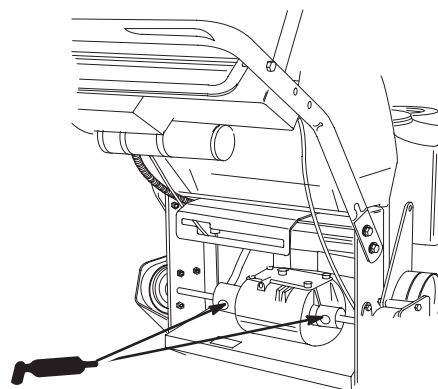

Figure 34
- Grease the transmission couplers (Fig. 34).